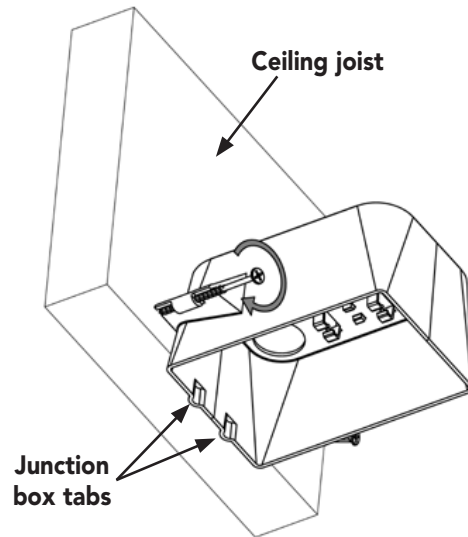

Figure 8
3. Locate the two tabs on the junction box, and line them up against a ceiling joist. The tabs locate the junction box slightly raised from the joist. Screw the two screws into the ceiling joist to secure the junction box (**Figure 8**).